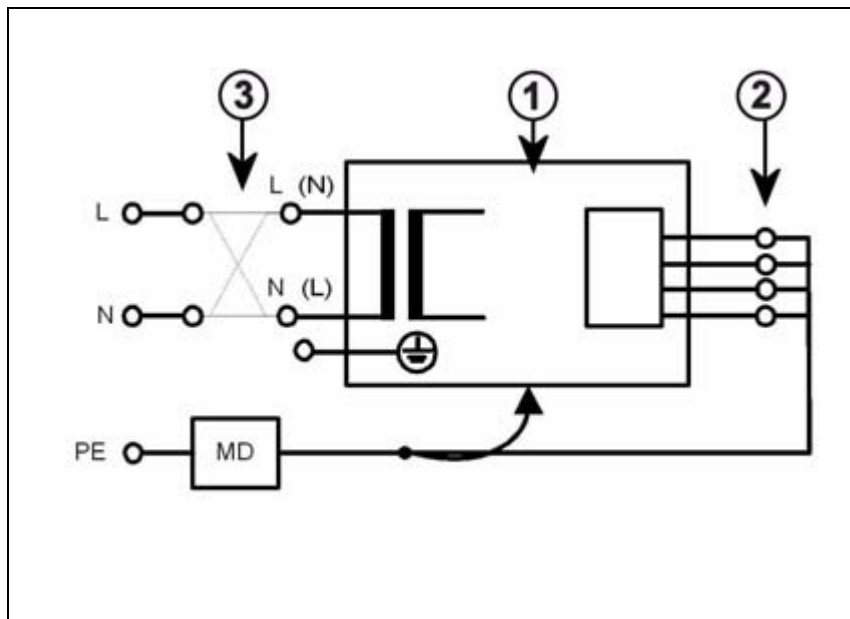

Fig. 8: Measuring circuit for direct measurement of the system leakage current in compliance with DIN VDE 0751-1/2001-10, Fig. C5 for protection class I.
If the direct measurement of the leakage current is used (measurement setup according to (Fig. 8 / p. 23)), the system must be insulated during the measurement and must not be touched.
- ⇒ **No housing parts of the system may be touched during direct measurement of the leakage current (measurement setup according to (Fig. 8 / p. 23)).**